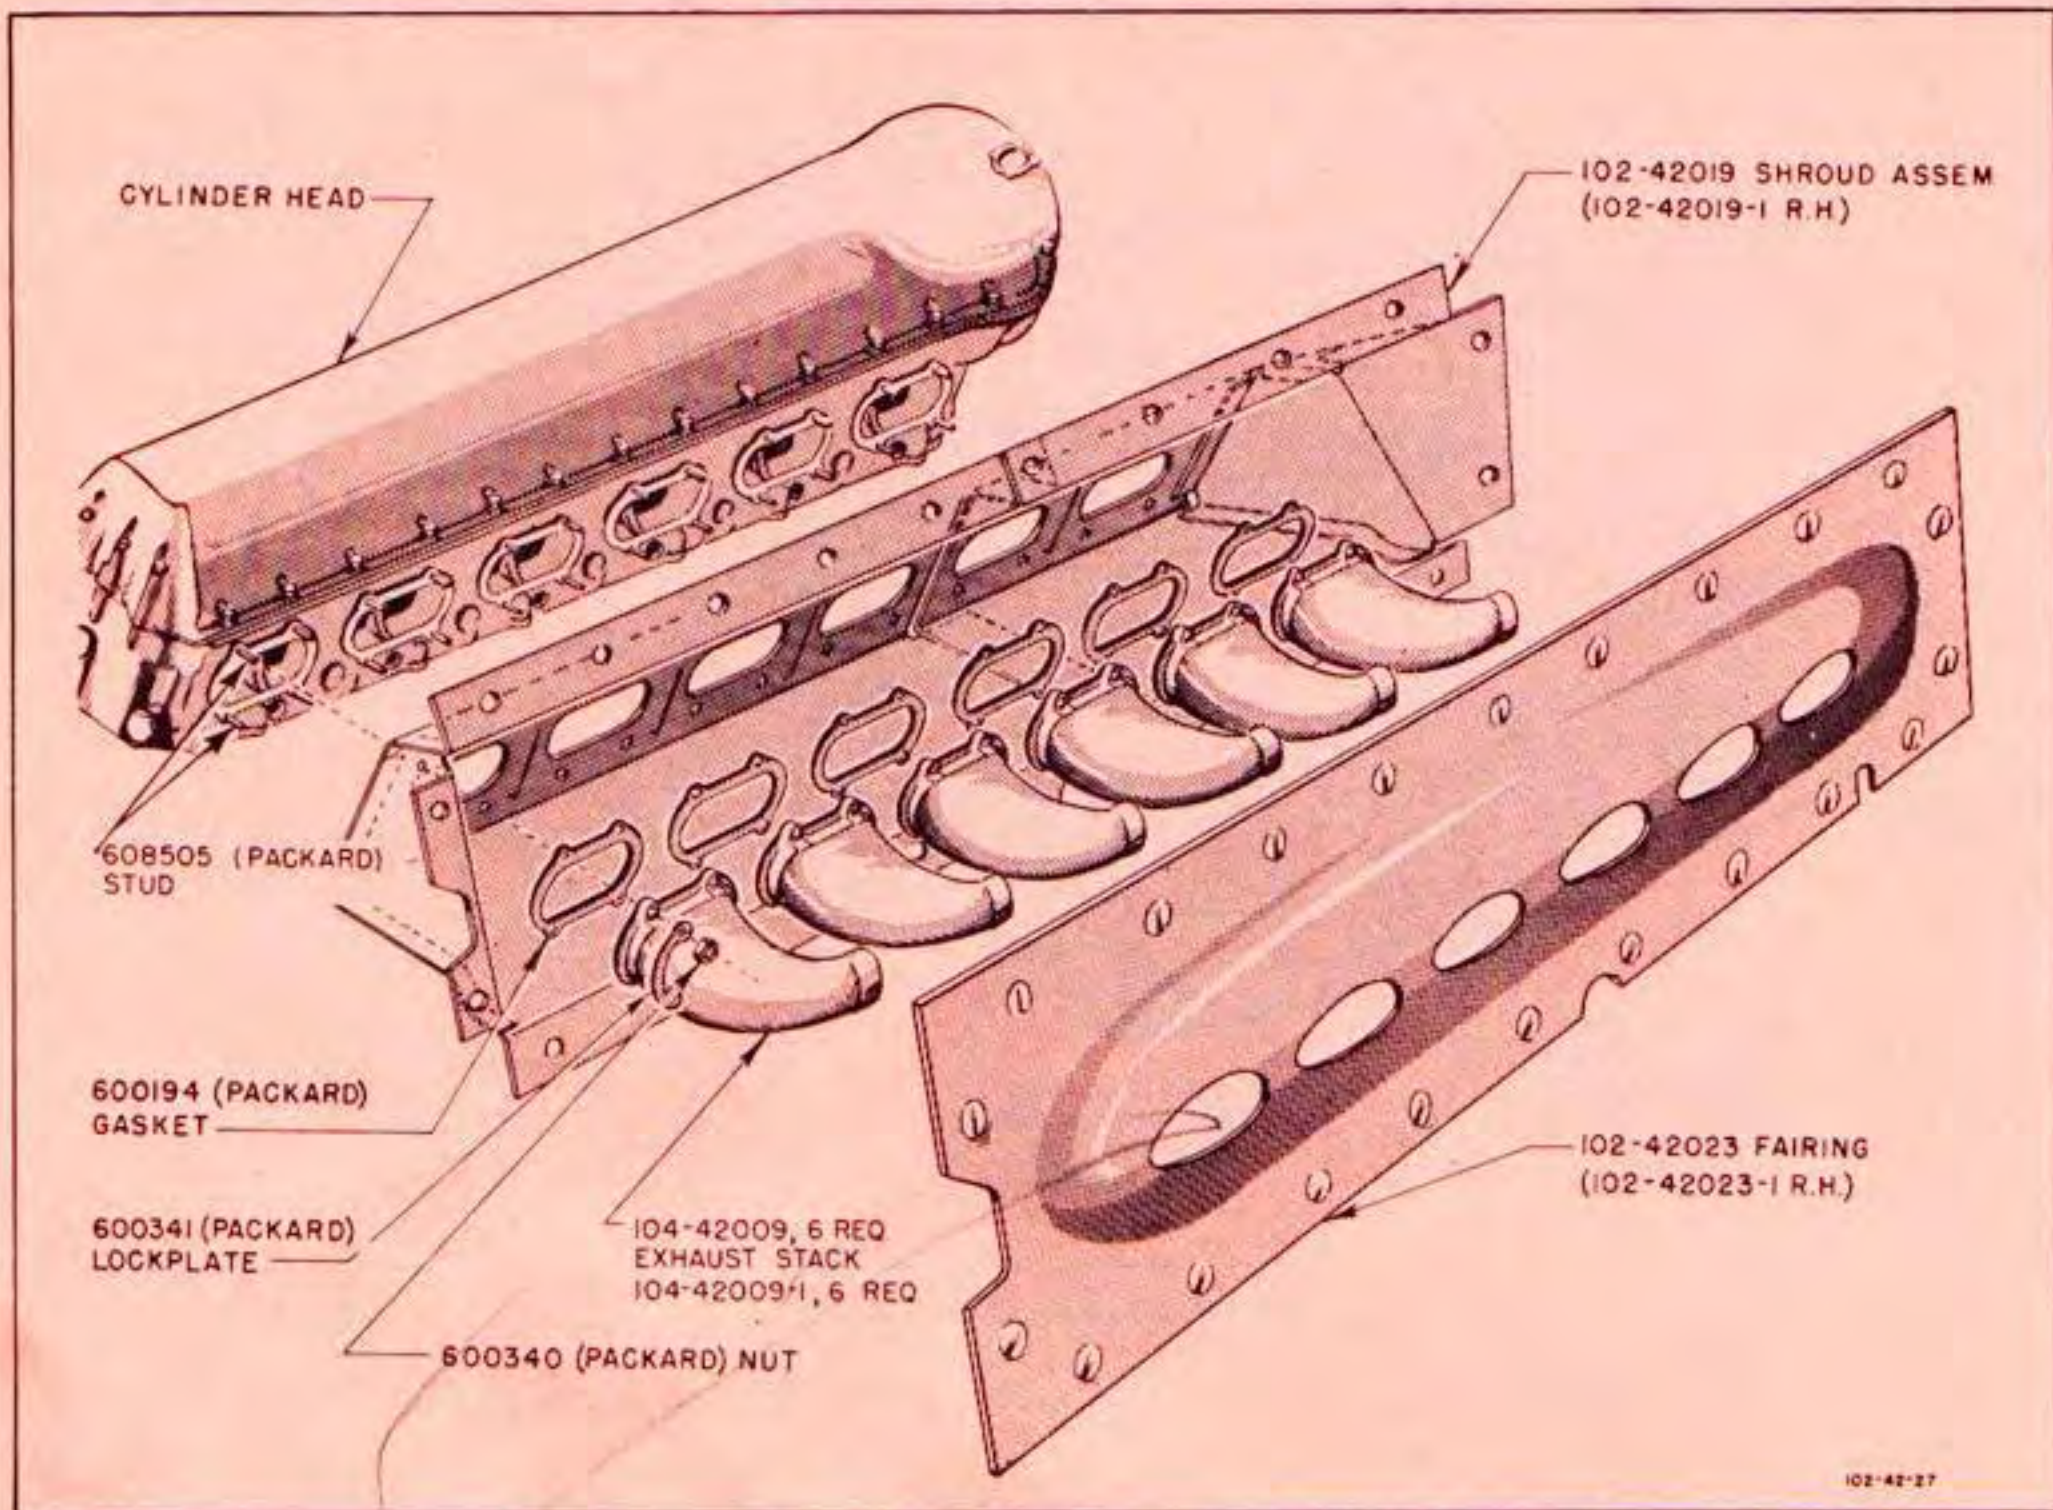

Figure 199—Engine Exhaust System Installation
1. Install exhaust system (figure 199) as follows: